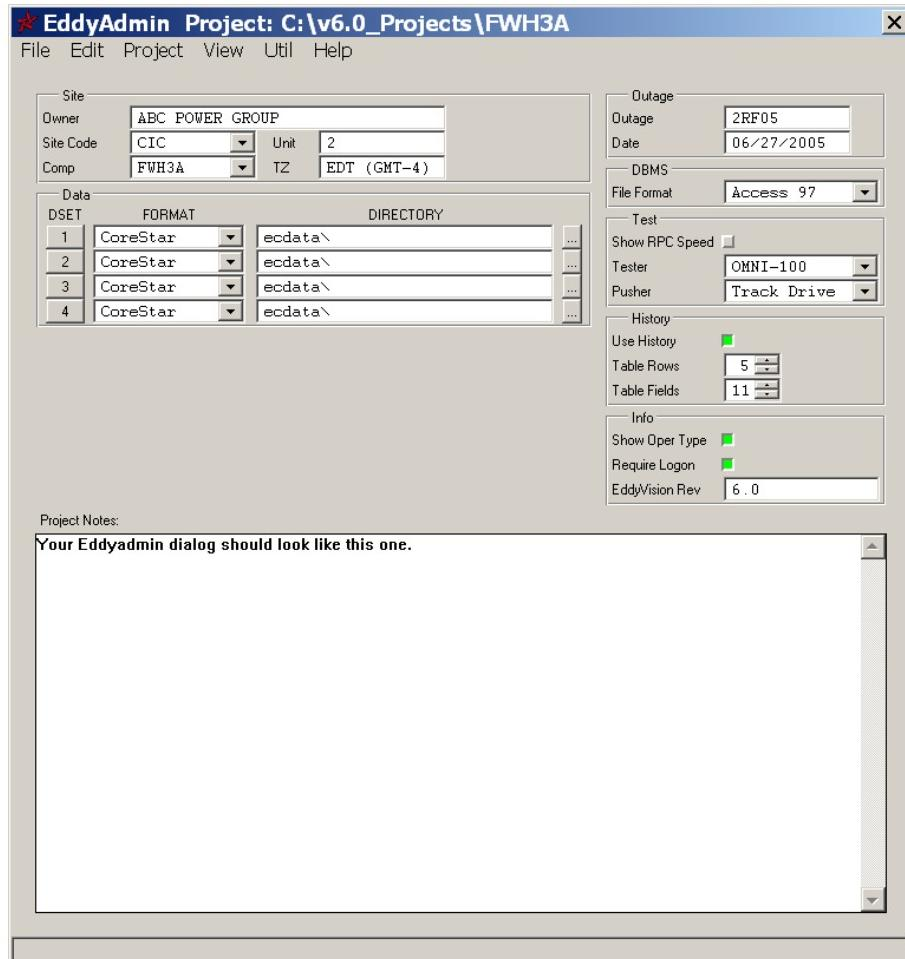

Figure 57. Completed EddyAdmin Dialog
STEP 23: *Optional:* In the *Project Notes* area at the bottom of the *EddyAdmin* dialog, you may enter a description for the project. The final *EddyAdmin* dialog should appear as shown in Figure 57.